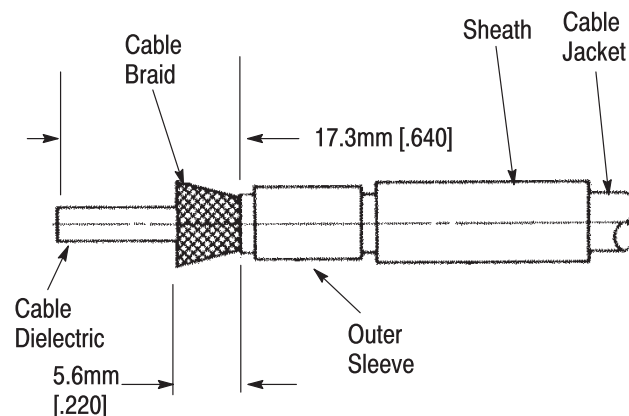

Figure 2
3. Trim the cable braid to the the dimension specified in Figure 2.